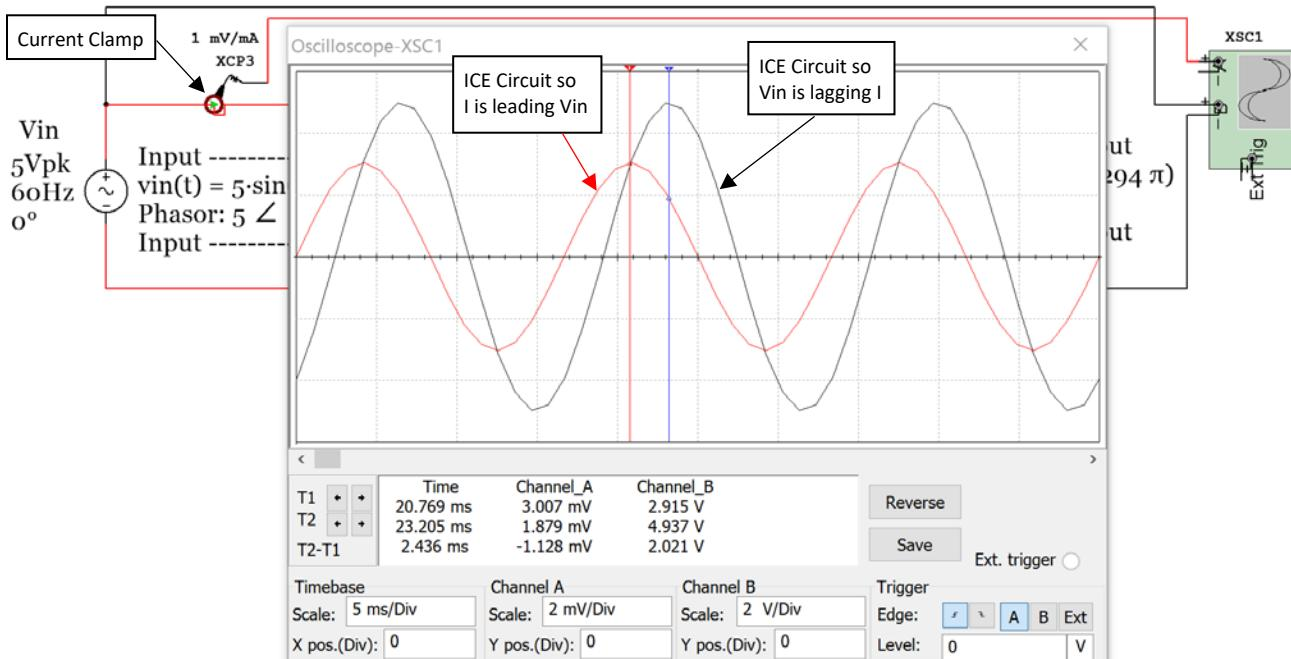
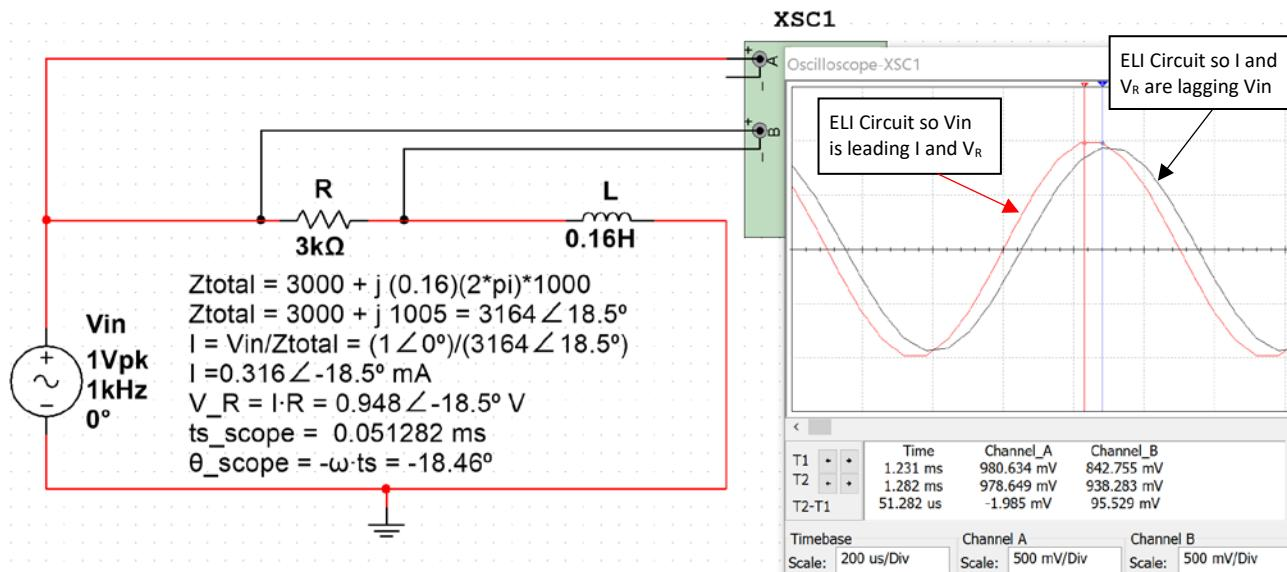

Figure 3.3: Input Voltage a Current scope plot of circuit in Example 3.1.
Figure 3.4: Circuit and Scope plot for Example 3.2.  $V_{in}$  is the Red sinusoid and  $V_R$  is the black sinusoid.
For the circuit in example 3.1 the input voltage and current are plotted in Figure 3.3. The current can be plotted on a scope using the current clamp as shown in Figure 3.3. The current clamp conversion is shown in this example to be  $1 \text{ mV/mA}$  so the peak current reading of the red current waveform is  $3.007 \text{ mV}$ , which equates to  $3.007 \text{ mA}$ . The next example is an RLC circuit. Notice how in the calculations in Figure 3.4 that the current and  $V_R$  both have a phase angle of  $-18.5^\circ$ . This means they are “in phase” with each other.
*Example 3.2) Solve the circuit in Figure 3.4 for  $V_R$  and verify it with the Multisim oscilloscope.*
The calculations for Example 3.2 are shown in Figure 3.4. The following link can be used to verify the total impedance calculation in a RLC circuit: <http://hyperphysics.phy-astr.gsu.edu/hbase/electric/powerac.html>
**Note:** If the minus sign of the Multisim oscilloscope is left disconnected then it is automatically assumed to be ground. Therefore, only the + side of channel A is connected in Figure 3.4. If you want to take a scope measurement across a component that is not connected to ground (i.e.  $v_R$  in Figure 3.4) then you connect the two sides of the component to the + and – side of the scope channel. Most oscilloscopes in the real world require that the minus sign (or black clip) be connected to ground. For example, Figure 3.6 shows a sinusoid that is connected to channel 1 of a Rigol DS1074 oscilloscope. This scope has 4 channels. Each channel has a probe that has a black clip that can only be connected to ground as shown in Figure 3.5. If you want to take a measurement across a component that is NOT connected to ground (i.e. differential measurement) then you have to connect 2 different probes to the two sides of the component and use the Math subtraction function to determine the voltage across the component.